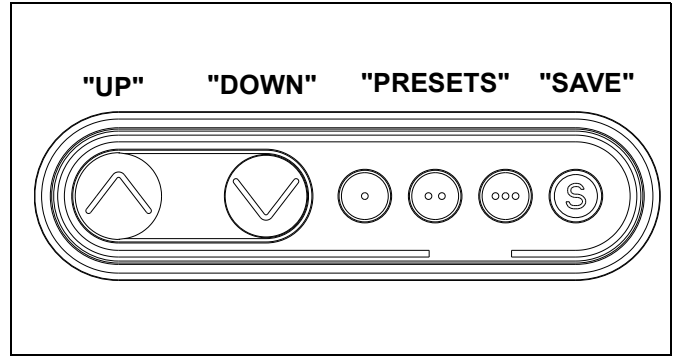

Figure 8
17. Press and hold "DOWN" button for three seconds to initialize lift mechanism. (See Figure 8)
18. Press and hold "UP" button until mount reaches it's maximum height. (See Figure 8)